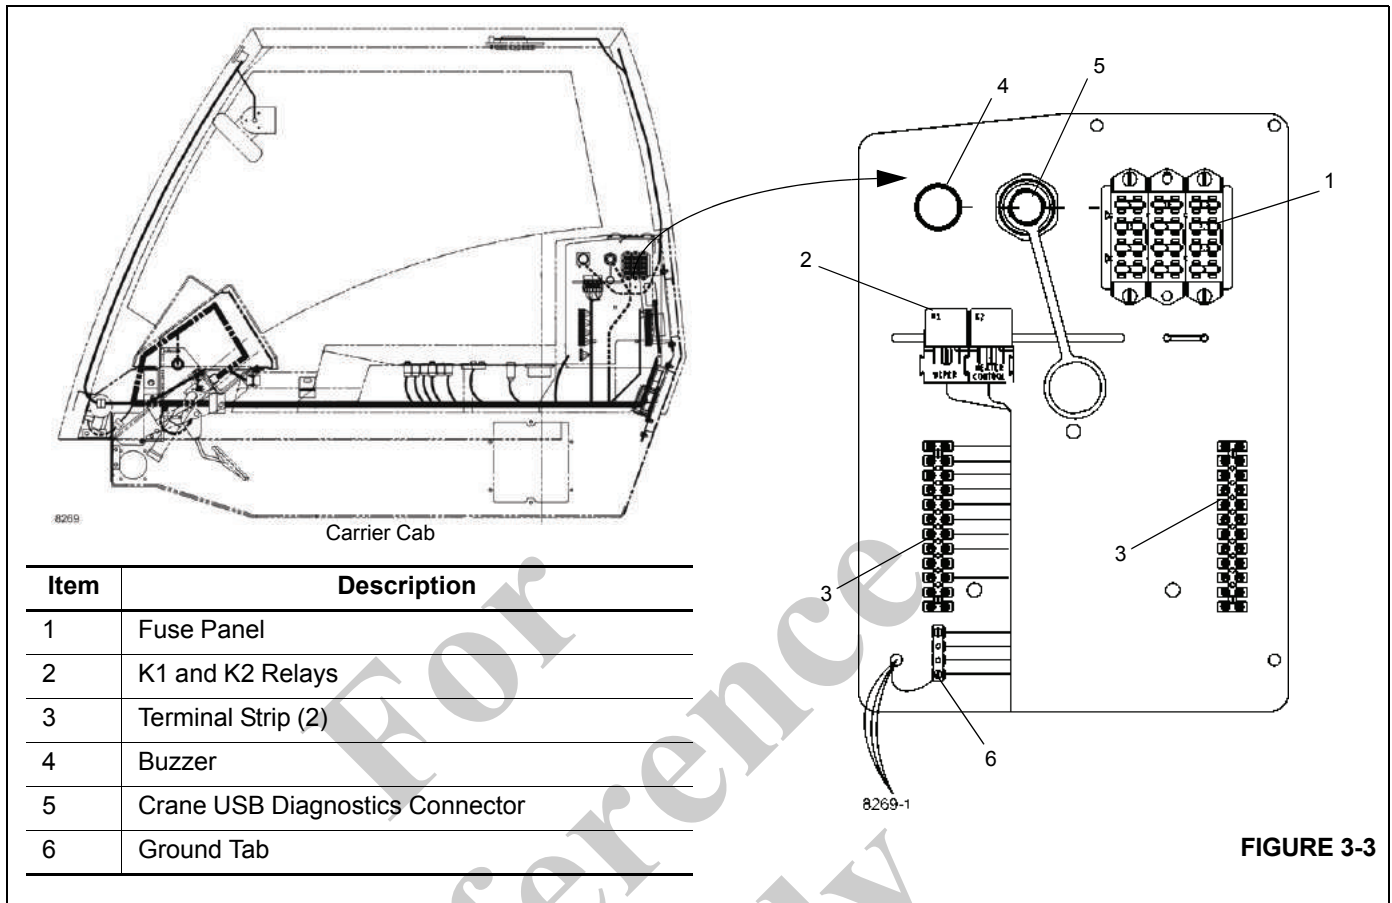

FIGURE 3-3
Most of the carrier cab electrical circuits and components are protected by the fuses mounted on the carrier cab power panel (Figure 3-3) located toward the rear of the cab, behind the driver's seat. Access to this panel is gained by removing plastic cover.
The power panel (Figure 3-3) contains 12 fuses, (2) terminal strips, (2) relays, a warning buzzer, a ground tab, and a USB diagnostic connector. A decal (Figure 3-4) located on the inside of this power panel cover identifies each fuse, relay and its function.